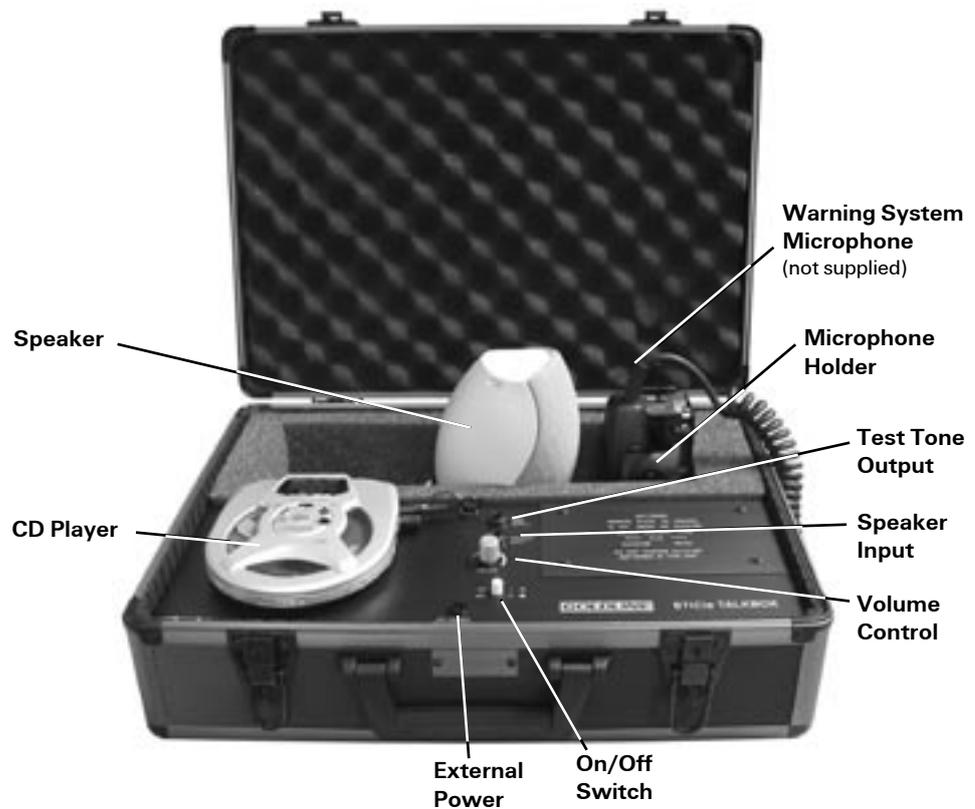

Figure 4. Talkbox
The Talkbox (Figure 4) comes equipped with its own CD player and speaker. The CD player has controls to Play, Rewind, and Fast Forward the CD with STI-PA test tone (supplied). However, pressing Play on the CD player is all that is required to play the test tone once you insert the STI-PA Test Tone CD into the CD player. Power is supplied to the Talkbox through a DC power supply (connected to the Ext. Power socket) or batteries. The Talkbox operates a minimum of 18 hours on eight double AA alkaline batteries.
8. Adjust the Talkbox speaker so that it lines up with the microphone and so that it is approximately 20mm away from the microphone. See Figure 4.